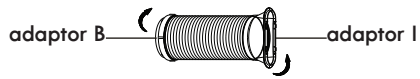

Fig.16a
- 1. Screw adaptor B and adaptor I onto the exhaust hose as shown in Fig. 16a.